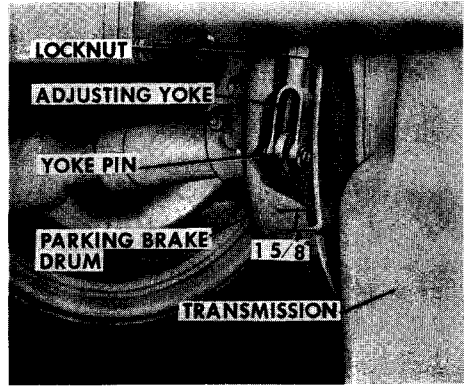

Figure 73
The rod and yoke adjustment is made by removing the yoke pin from the brake lever and loosen the lock nut, Figure 73. The yoke can then be turned on or off for the required adjustment. Tighten the lock nut after adjustment has been made.
1. Disconnect the adjusting yoke from the brake lever, Figure 73.